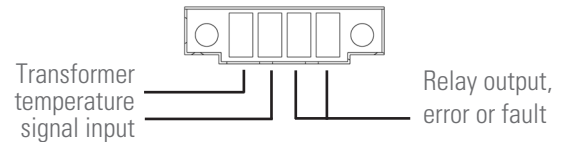

Fig. 24. Digital input/output to relay connector.
- The device has a four-terminal connector for a digital input and output to relay (see Fig. 24).